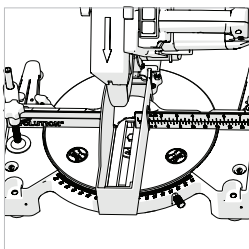

Fig. 16
- Position the Auxiliary Lower Blade Guard on the Rotary Table over the table insert and straddling the Fence. **(Fig. 16)**